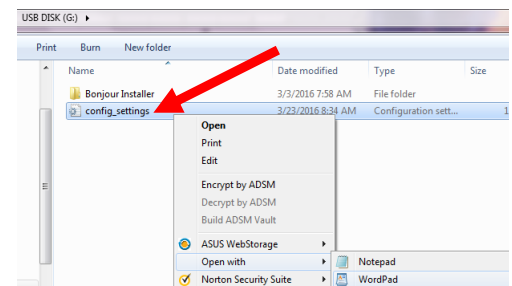

Figure 1
1. On the initial installation the service tech will have to configure the parameters listed in the config_settings.ini file on the USB drive by opening the file with Notepad++ utility available in Microsoft PC based machine. Right click on the file and Open with Notepad to edit the file (see Figure 1).